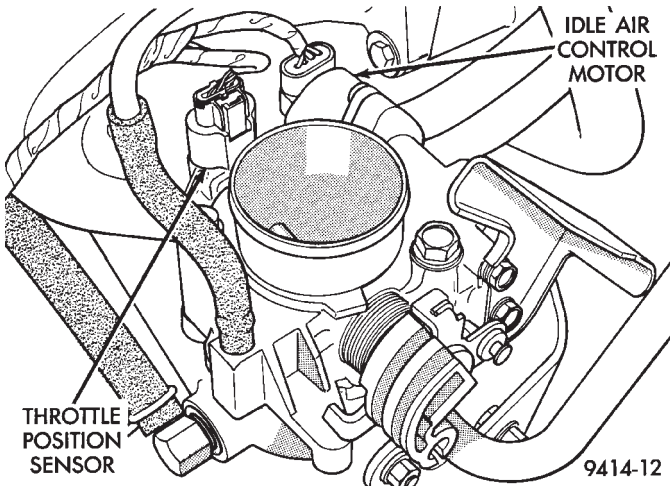

Fig. 13 Idle Air Control (IAC) Motor and Throttle Position Sensor (TPS) Wiring Connectors and Vacuum Hose Connection.
(6) Remove accelerator, kickdown and speed control cables from throttle lever and bracket. Refer to Group 14, Fuel System for procedures.
(7) Disconnect idle air control (IAC) motor and throttle position sensor (TPS) wiring connectors (Fig. 13).